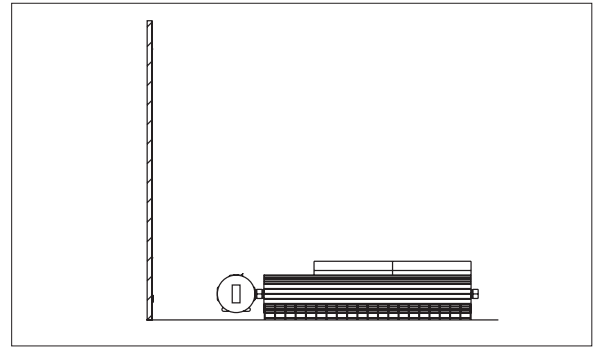

Figure 6 – Floor mounting diagram
**Step 1:** Position heater face down on the floor with terminal box towards the wall (Figure 6).